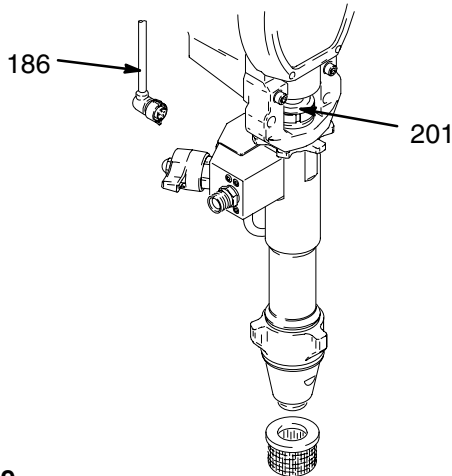
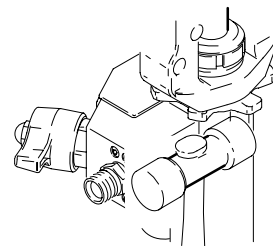

Fig. 9
Fig. 13
1. Flush pump. Relieve pressure. Fig. 9. Cycle pump with piston rod (201) in its lowest position.
2. Fig. 9. Disconnect transducer cable (186).
Fig. 13. Screw jam nut down onto pump until it stops. Screw pump up into bearing housing until it is stopped by jam nut. Back off pump and jam nut to align pump outlet with opening in cover (134). Tighten jam nut by hand, then tap 1/8 turn with a plastic hammer to approximately 75 +/- 5 ft-lb (102 N-m). Fig. 9. Connect transducer cable (186).